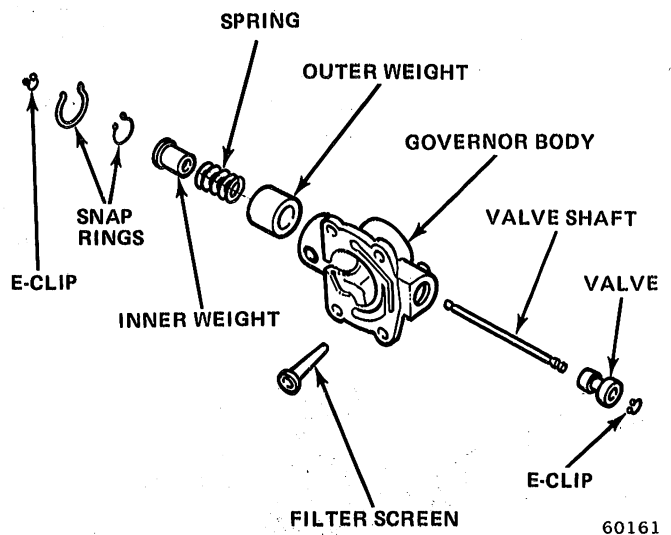

Fig. 2C-25 Governor Valve Assembly
- (1) Remove large snap ring from weight end of governor body (fig. 2C-25).
- (2) Remove weight assembly.
- (3) Remove snap ring from governor weight assembly.
- (4) Separate inner weight, spring, and outer weight. Identify spring with tag.
- (5) If park gear or governor body is to be replaced, straighten lock tabs and remove bolts attaching body to gear.
- (6) Remove governor filter.